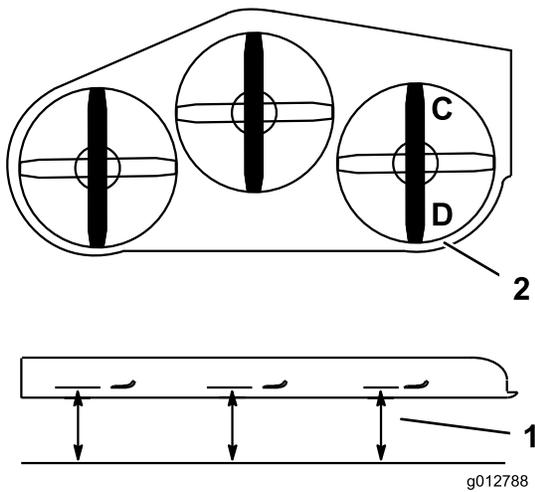

Figure 87
- Position the right blade front-to-rear (Figure 87).
- Measure the right blade at the **C** location, from a level surface to the cutting edge of the blade tip and record this measurement (Figure 87).
- Measure the right blade at the **D** location, from a level surface to the cutting edge of the blade tip and record this measurement (Figure 87).
- The mower blade should be a 1/4 to 3/8 inch (6 to 10 mm) lower at position **C** than at position **D** (Figure 87). If it is not correct, proceed to the following steps.